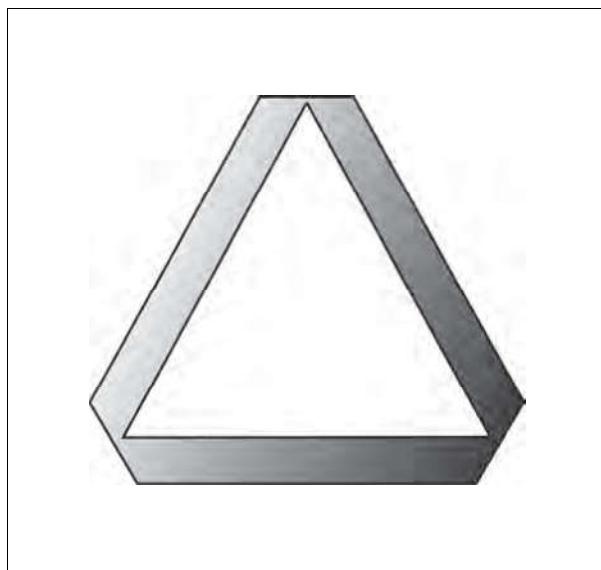

Fig. 5.
- Ensure that the tractor and implements are fitted with SMV emblems and other markings recommended to improve visibility when driving on roads (unless the regulations state otherwise) *fig. 5*.